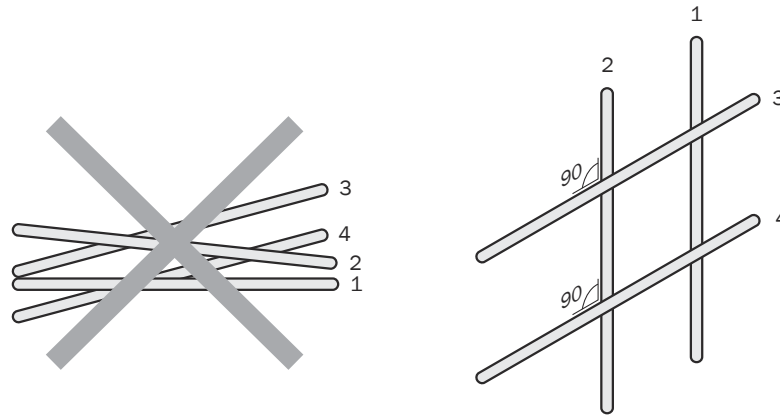

Figure 7: Cross cables at right angles
- ▶ Cables in groups 1, 2 and 3, 4 must be crossed at right angles, see figure 7.